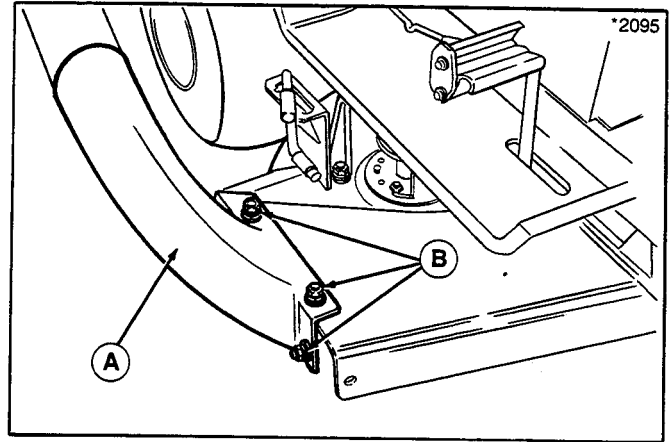

Figure 7.
10. Place the adapter (A, figure 7) onto the three carriage bolts and install 3/8" plain washers, 3/8" lockwashers and 3/8" nuts.